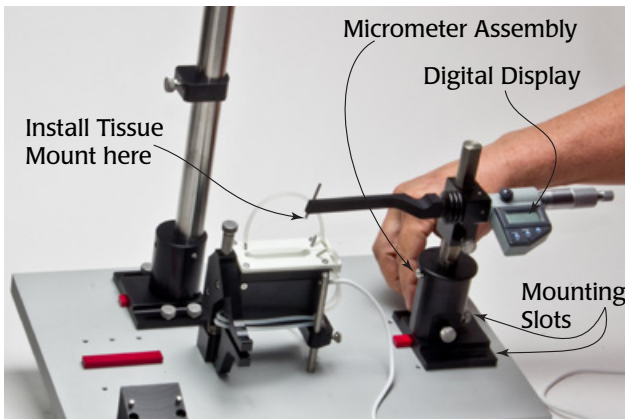

Fig. 8— Micrometer assembly
3. Position the micrometer assembly (**Fig. 8**) on the right side of the base so that the mounting slots on the micrometer align with the holes in the base plate. Make sure that the digital display of the micrometer faces the front of the base plate. Use the four outside holes and insert four thumb screws through the slots on the base of the micrometer assembly and into the screw holes. The position of the micrometer is flexible, depending on the screw holes you choose and how you position the micrometer assembly. When the micrometer is in the position, tighten the thumb screws.
4. Gently slide the tissue mounting hook up on the pin the extends from the arm of the micrometer (**Fig. 8**). Some mounting hooks require an adapter (**Fig. 9**).